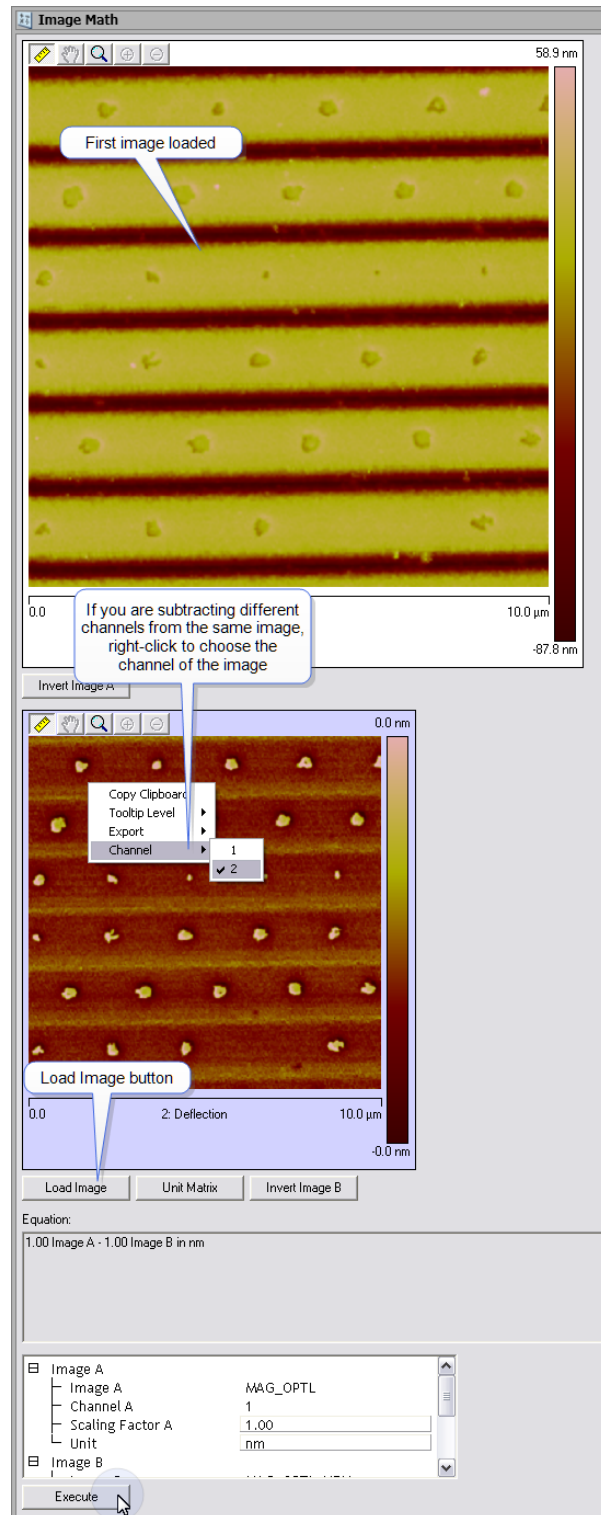
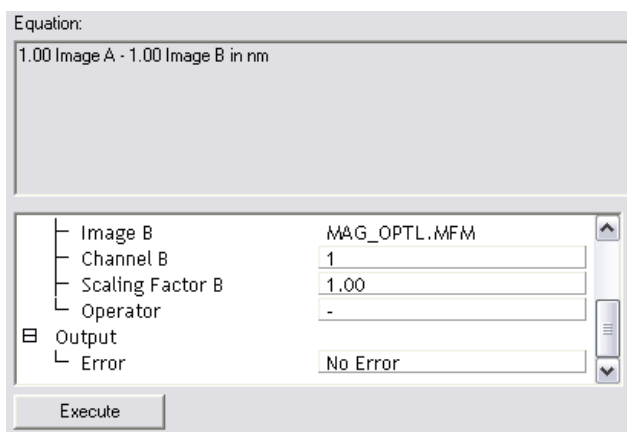

Figure 6.6b: Image Math Window
Figure 6.6c: The **Image Math** dialog box
4. If necessary, right click on the second image panel to change the channel (see Figure 6.6b). The channel may also be changed by entering the channel number into the **Image Math dialog box**, shown in Figure 6.6c.
6. Click the Execute button to perform the operation on Image A. The result, which overrides the data in the active (A) channel, is shown in the top panel of the **Image Math** view. Error are displayed the in Image Math dialog box shown in Figure 6.6c.